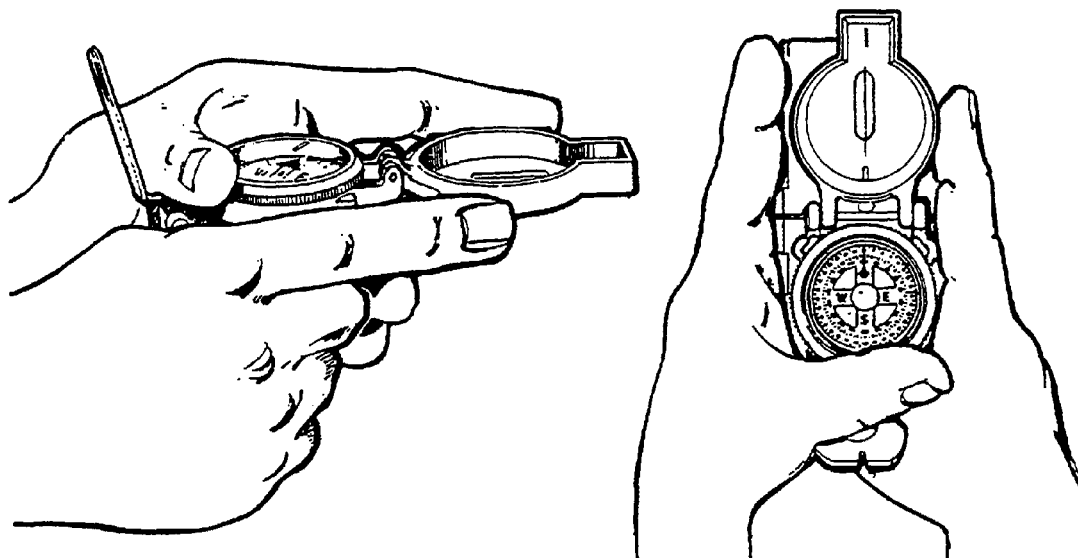

Figure C-2. Centerhold Technique
a. Using the Centerhold Technique (Figure C-2). First, open the compass to its fullest so that the cover forms a straightedge with the base. Move the lens (rear sight) to the rearmost position, allowing the dial to float freely. Next, place your thumb through the thumb loop, form a steady base with your third and fourth fingers, and extend your index finger along the side of the compass. Place the thumb of the other hand between the lens (rear sight) and the bezel ring; extend the index finger along the remaining side of the compass, and the remaining fingers around the fingers of the other hand. Pull your elbows firmly into your sides; this will place the compass between your chin and your belt. To measure an azimuth, simply turn your entire body toward the object, pointing the compass cover directly at the object. Once you are pointing at the object, look down and read the azimuth from beneath the fixed black index line. This method offers the following advantages over the sighting technique:
- (1) It is faster to use.
- (2) It is easier to use.
- (3) It can be used under all conditions of visibility.
- (4) It can be used when navigating over any type of terrain.
- (5) It can be used without putting down the rifle; however, the rifle must be slung well back over either shoulder.
- (6) It can be used without removing the steel helmet or eyeglasses.